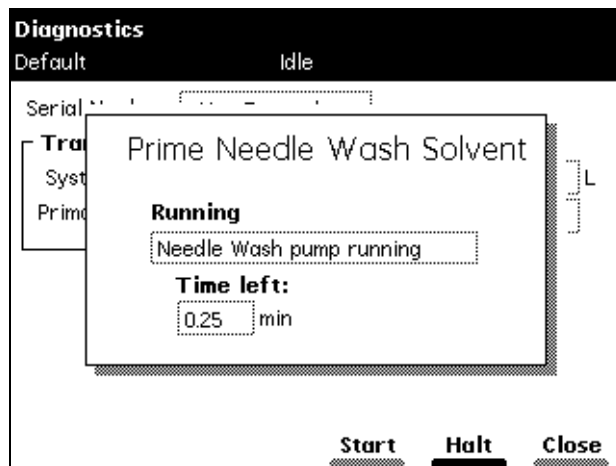

Figure 3-20 Prime Needle Wash Solvent Dialog Box
5. Press the **Prime NdlWash** screen key. The Prime Needle Wash Solvent dialog box appears (Figure 3-20).